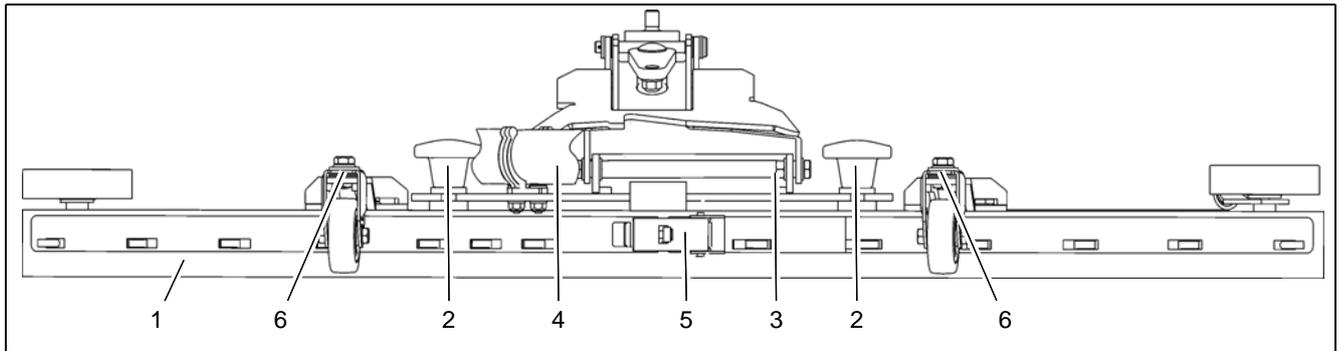

Fig.11
Check the squeegee (Fig. 11/1) daily and clean as necessary.
To clean it lift the squeegee out, pull off the suction hose (Fig. 11/4), loosen the two star-shaped knobs (Fig. 11/2) and remove the squeegee.
Check the inner and outer sealing strips on the squeegee (Fig. 11/1) weekly for signs of wear. The sealing strips can be used fourfold by turning them.
3. Unlock the fastening device (Fig. 11/5) and remove the outer sealing strip. Turn the sealing strip or install a new one, as necessary. Change the inner sealing strip in the same way.